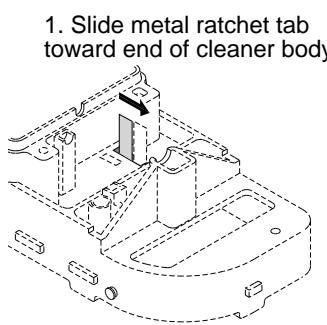

Figure 17
8. The metal ratchet tab slides out of its slot sideways; replace it by removing the center brushes and sliding in a new ratchet tab until it is flush with the edge of plastic holder (Figures 17 and 18). Replace the center brushes.